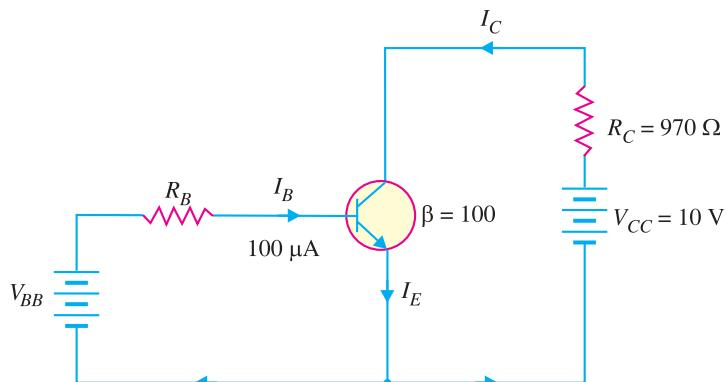

Fig. 8.55
**Example 8.34.** Is the transistor in Fig. 8.55 operating in saturated state?